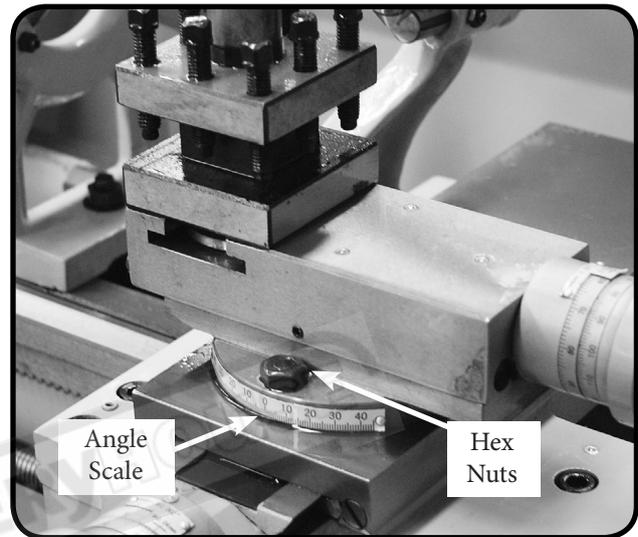

Fig. 29
1. Loosen the two hex nuts at the base of the compound rest. (One at the front and one at the back of the compound slide.) (Fig 29).